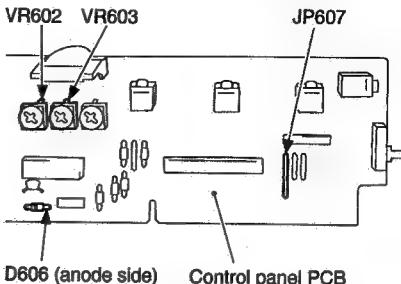

Figure 3-45
10) Turn VR603 (AE gain adjustment) until the voltage between the anode side of the diode (D606; +) and JP607 (GND) is 1.8 ± 0.1 V; see Figure 3-45.